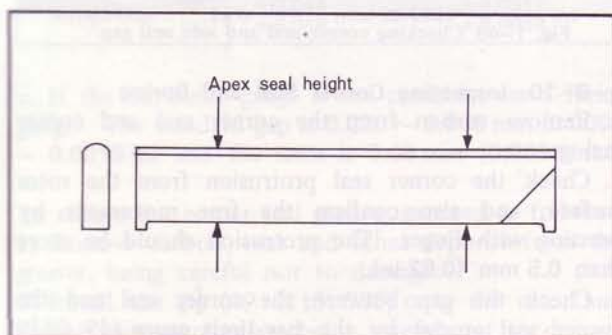

Fig. 1-42 Apex seal height
3. Measure the height of the apex seal with a micrometer at two positions shown in Fig. 1-42. Replace if the height is less than 7.0 mm (0.275 in).